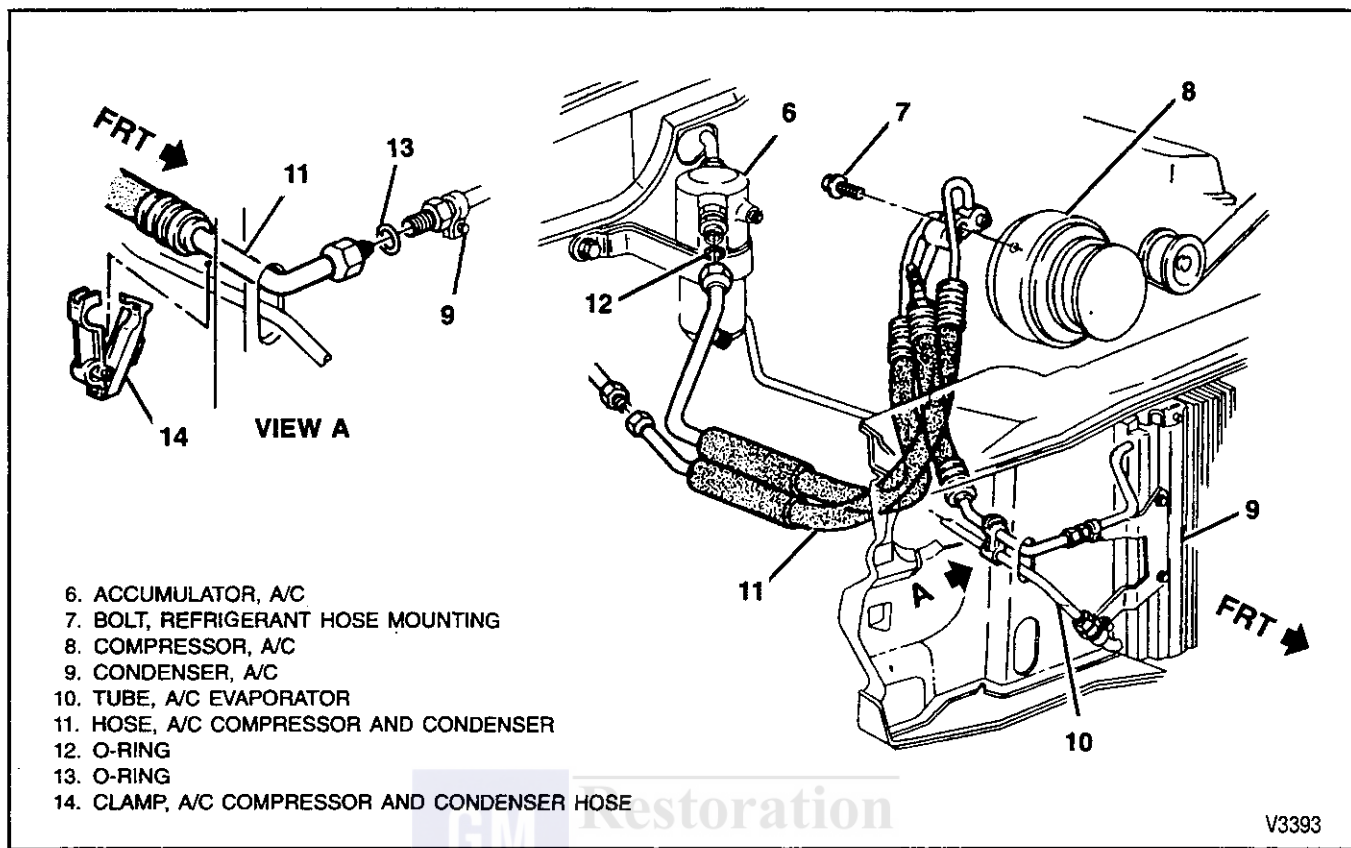

Figure 42—Compressor and Condenser Hose Assembly (5.7L Engines)
**Remove or Disconnect (Figures 42, 43, and 44)**
4. Bolt (7).
5. Hose assembly (11) from rear of the compressor (8).
7. Hose assembly (11) from accumulator (6).
8. O-ring seal (12).
10. Hose assembly (11) from condenser (9).
13. O-ring seal (22).
**Install or Connect (Figures 42, 43, and 44)**
1. New O-ring seal (22).